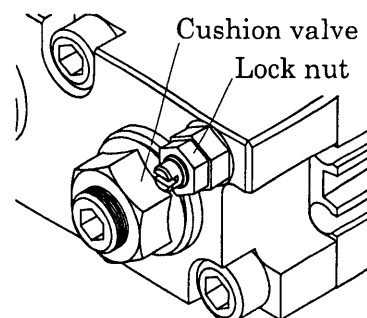

Fig.15
- a) Rotary actuator is not adjusted so that the cushions work during shipment. Adjust the cushion valve attached to the cover depending on rotation time and load inertia moment. (See Fig 15)